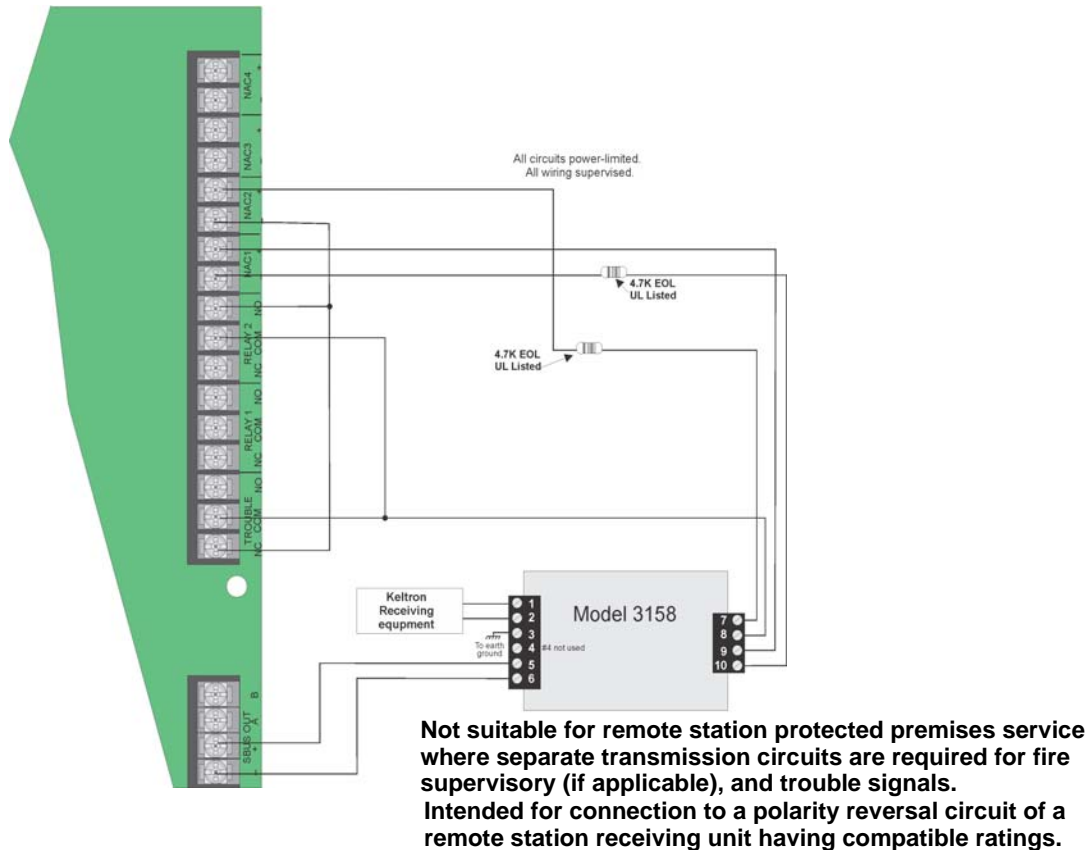

Figure 4-43 Keltron 3158 Connection to Control Panel
1. Wire the 3158 to the control panel as shown in the connection list and Figure 4-43.